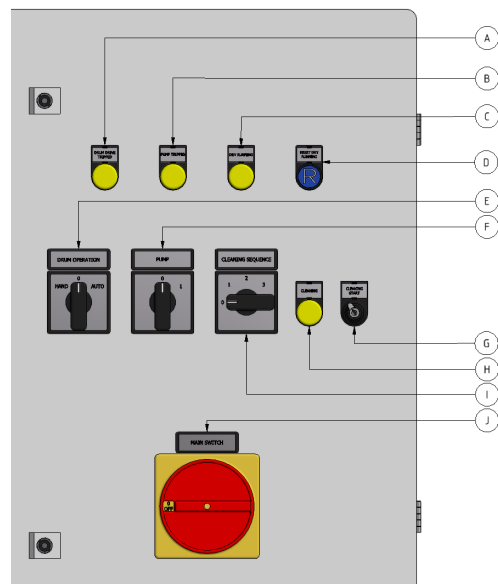

Figure 2.3
- ▶ Before carrying out maintenance work, the main power switch (see Figure 2.3) must be turned to the OFF (0) position and locked with a padlock.
The filter is equipped with a main power switch (see Figure 2.3).